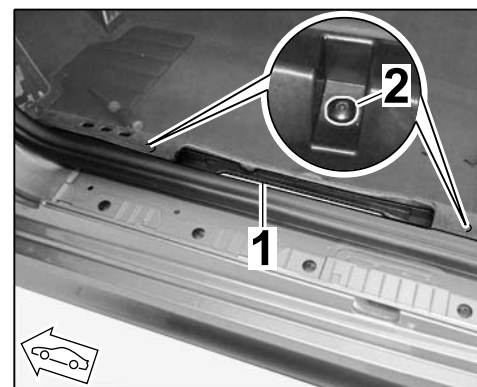

Figure 21
5.2 Screw in and tighten screws ⇒ *Figure 21 -2-* on the door sill support ⇒ *Figure 21 -1-* on the left and right.